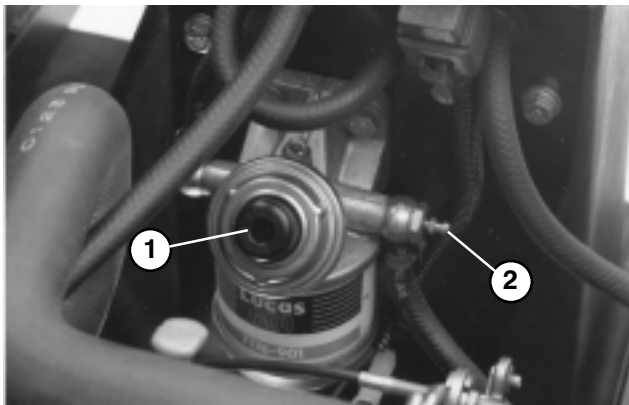

Figure 20
PRIMING FUEL SYSTEM (Fig. 20 & 21)
3. Loosen fuel filter / water separator bleed screw (Fig. 20) a few turns. Pump priming plunger until a steady stream of fuel comes out of hole in bleed screw. When fuel stops foaming, tighten the bleed screw during the downstroke of the priming plunger. Wipe up any spilled fuel.